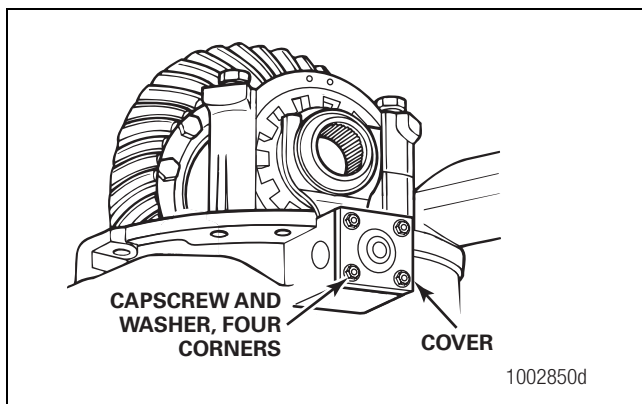

Figure 18
- Apply Loctite® 242 threadlocker to the capscrew holes. Install the DCDL cover plate with the gasket onto the housing. Install the washers and capscrews. Tighten the capscrews to 50 ± 10 lb-in (6 ± 1 N•m). Figure 18.